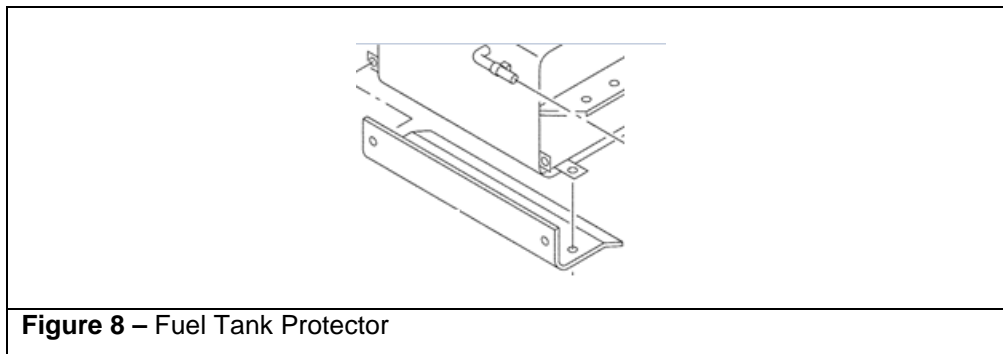

Figure 8 – Fuel Tank Protector
20. Remove the fuel tank protector from the front of the tank (4 bolts) (See Figure 8).